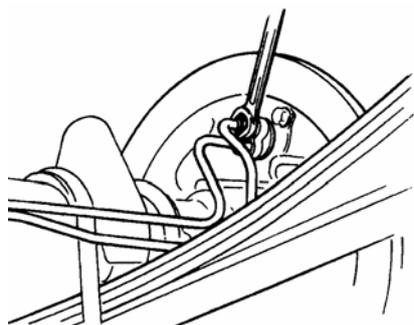

FIG.16-40
(1) The removal of brake drum and brake shoe refer to installation section.
(2) Loosen brake pipe flare nut from wheel cylinder, and take out fluid with a syringe or such. (FIG.16-40)